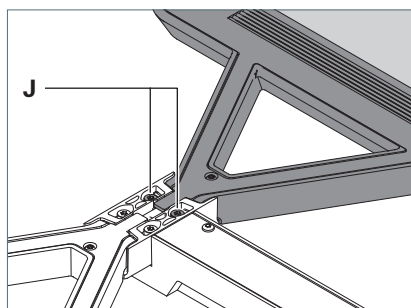

Fig. 27: Adjusting the luminaire head.
1. To lower a luminaire head, turn the adjusting screws **J**, which are holding this luminaire head, anti-clockwise, see Fig. 27.